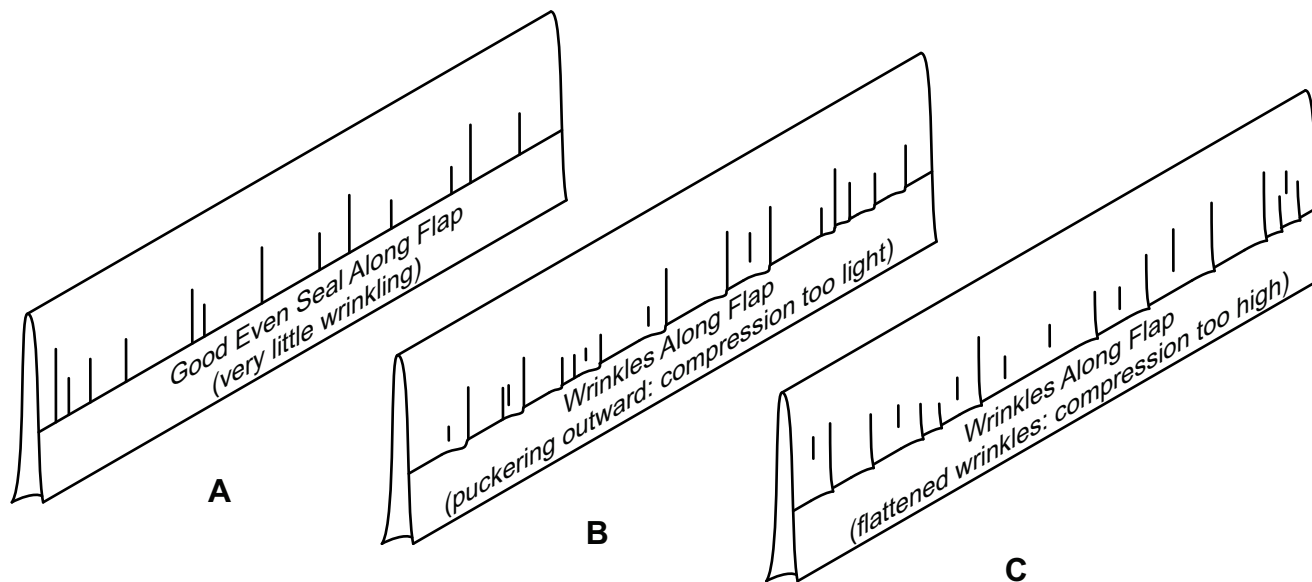

Figure 7-1 Bag Seal Comparison
1. The diagram in Figure 7-1 \(A\) represents a proper bag seal. Some creasing will occur near the gussets and small wrinkles will be present as a result of the creaser. The seal does make full contact along the bag when pulled apart and inspected.
2. The diagram Figure 7-1 \(B\) shows that the flap has not been completely compressed. The adhesive was likely heated to the correct temperature, but the compression rollers must force the melted
3. The diagram Figure 7-1 (C) indicates that the bag has been sealed for the most part, but there are an excess amount of large wrinkles in the flap. They are compressed to the surface, but still may allow leakage of the product. Here are some of the possible causes: